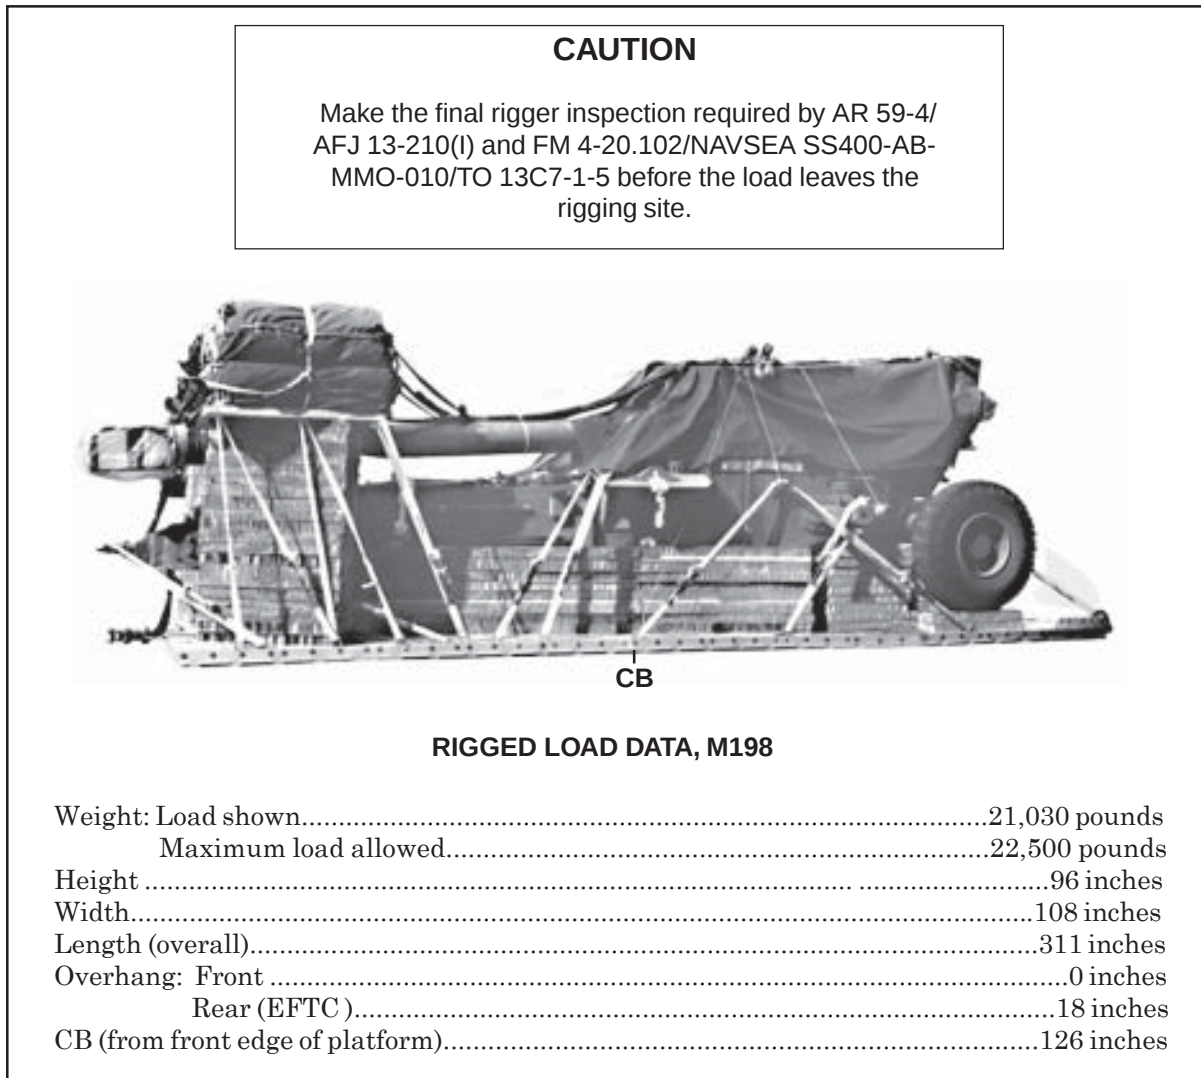

Figure 1-23. M198, 155-mm Howitzer Rigged on a 24-foot, Type V Platform for Low-Velocity Airdrop
1-15. Mark the rigged load according to FM 4-20.102/NAVSEA SS400-AB-MMO-010/TO 13C7-1-5 and as shown in Figure 1-23. Complete Shipper's Declaration for Dangerous Goods. If the load varies from the one shown, the weight, height, Center of Balance (CB), and parachute requirements must be recomputed.
1-16. Use the equipment list in Table 1-1 to rig the load shown in Figure 1-23.